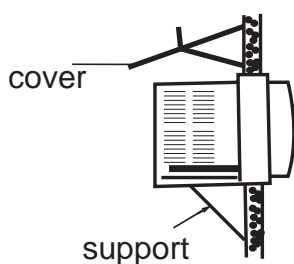

fig.1
1. The air-conditioner is better installed in shadow or in a place with short period of sunshine. In case the air-conditioner is installed at the point exposed directly to the sunshine, it should be protected from the direct sunlight as possible in order to avoid the long time of direct sunlight otherwise its performance will be lowered. (As illustrated in Fig. 1).